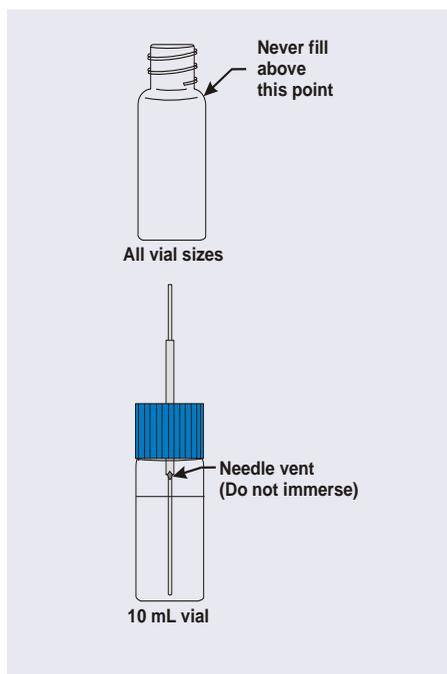

Figure 3-3. Maximum Level to Fill Vials
1. Fill the vials to the vial shoulder or lower (see Figure 3-3). **Do not fill to the top.**